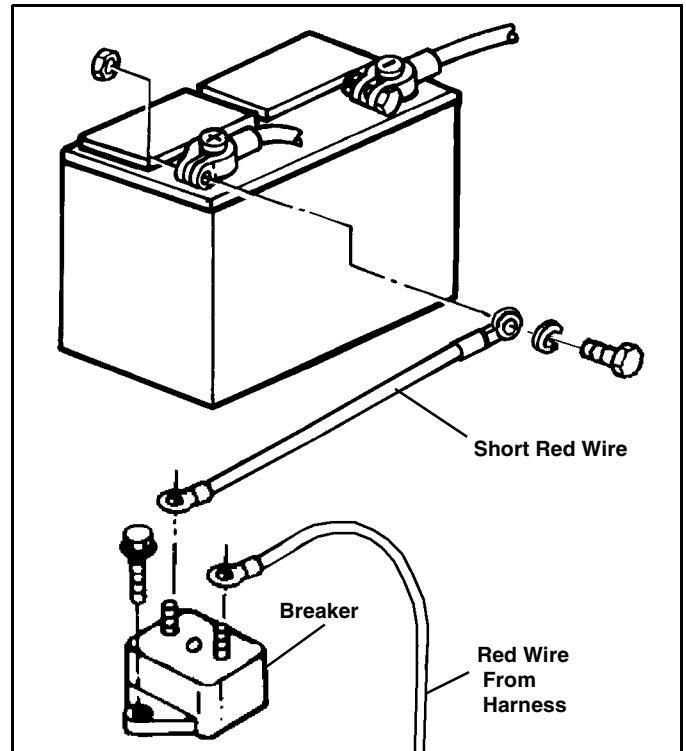

Figure 1-6
17. Locate short red wire (#96106728) with two ring terminals. Attach the small ring terminal to the copper colored post marked BAT on the breaker. Attach the other, large ring terminal to the battery positive terminal. (See Figure 1-6).